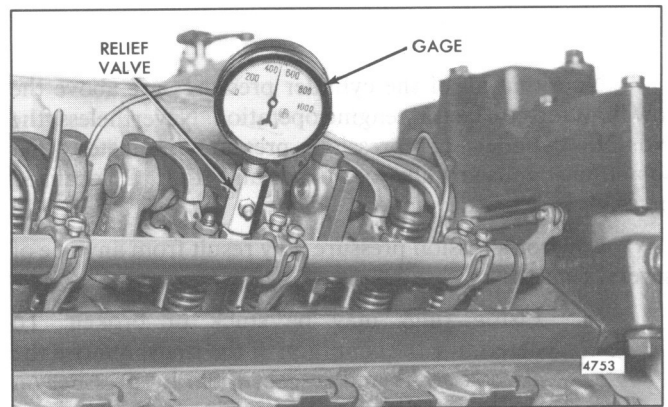

Fig. 1 – Checking Compression Pressure
3. Remove the injector and install an adaptor and pressure gage (Fig. 1) from Diagnosis Kit J 9531-01.